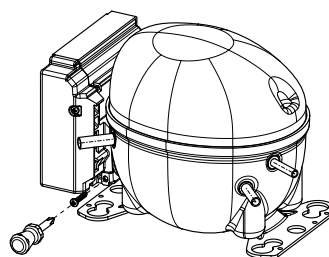
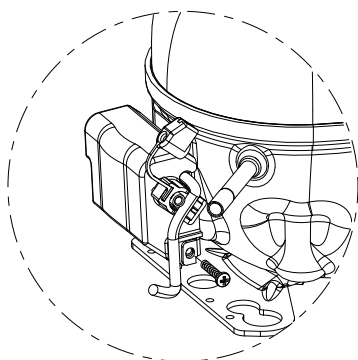

Figure 3.18: Step 4 - Screw the inverter
Figure 3.23: Step 5 - Screw the fence cover
- The screws shown in Figures 3.18 and Figures 3.23, 3.24 must be fixed with torque of 1.0 Nm (± 0.2).